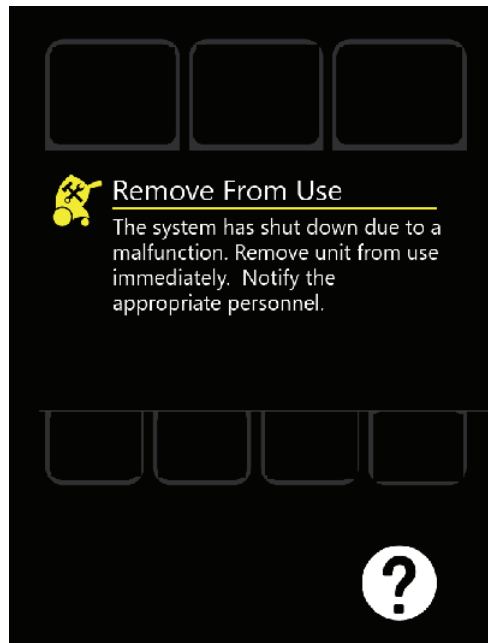
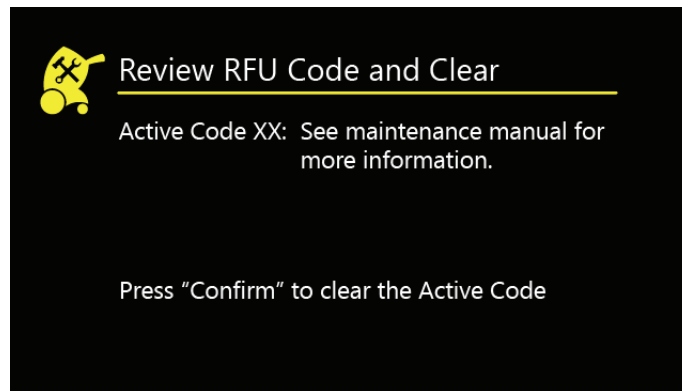

Figure 59 – Remove from use
Figure 60 – Review RFU Code and Clear
1. In the Remove from Use screen (Figure 59), tap the ? button to see the Review RFU Code and Clear screen (Figure 60).